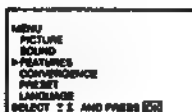

Fig. 24
- 2 Select "FEATURES" with Δ or ∇ and press OK. The FEATURES menu appears. (See Fig. 24.)